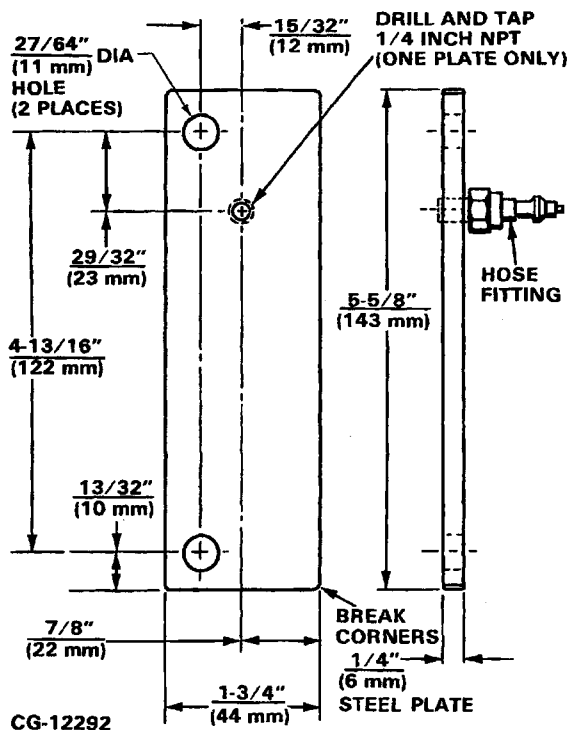

Figure 9.29. Pressure Plate Fabrication
- Construct two plates, as illustrated in Figure 9.29, one with a 1/4" NPT hole and one without.